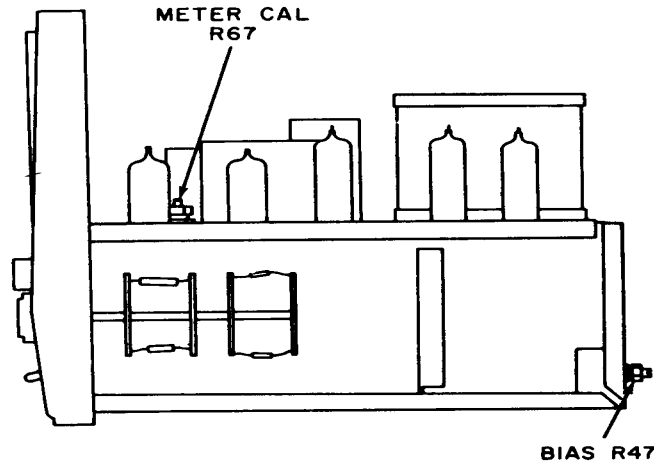

Figure 1. Microvolt-ammeter - right side view.
**b. Adjustments.** Adjust BIAS R47 (fig. 1) for 0 (zero) indication on TI.
- (1) Set RANGE switch to 10 MILLIVOLTS.
- (2) Adjust decade resistor No. 1 for 999,000 ohms.
- (3) Adjust decade resistor No. 2 for 1000 ohms.
- (4) Adjust dc voltage standard for 10.00 V output.
- (5) Adjust METER CAL R67 (fig. 1) for full-scale indication on TI (R).